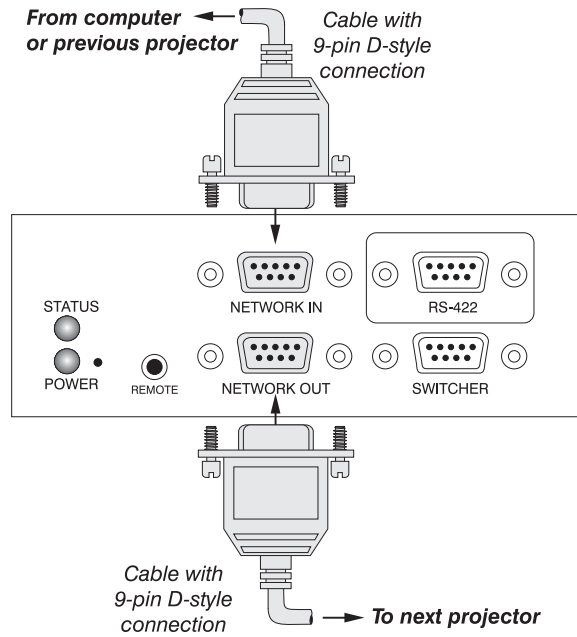

Figure 2-20. Adding Another Projector
- If using multiple projectors** ➤ To control multiple projectors with a computer/controller, chain the projectors together by connecting the "NETWORK OUT" connector of the first projector (already connected to the computer/controller) to the "NETWORK IN" connector of the next projector in the chain (Figure 2-20).